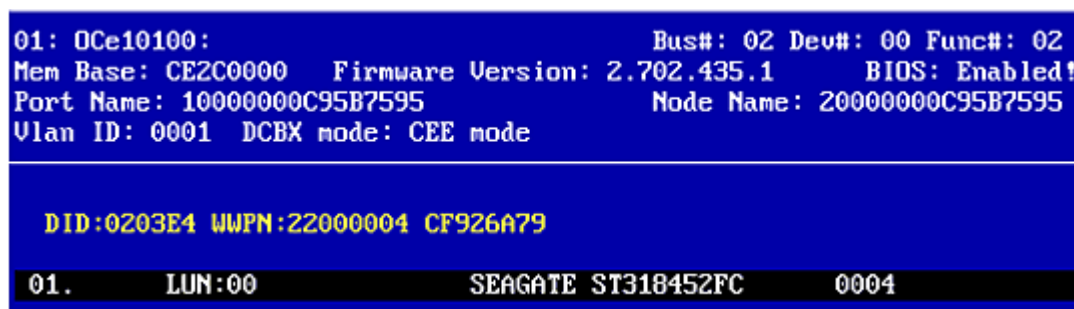

Figure 5-8 Boot Device Selected
5. A screen similar to Figure 5-8 is displayed. Press **<Enter>**.